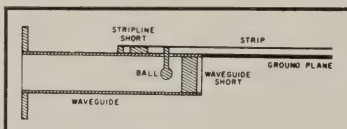

Fig. 4. Ball-probe transition from wave guide to single-ground-plane strip line.
The ball-probe transition from wave guide to coaxial line is the most broadband, so it is natural to consider its use for wave guide to strip line transitions. The ball probe is inherently a low power device, but as strip line is also limited to low power applications, no important characteristics are sacrificed. In such a transition, shown in Fig. 4, the following parameters are important: (1) position of the short in the wave guide, (2) diameter and height of the ball, (3) diameter of the rod, (4) size of the iris in the conductor which forms both the ground plane of the strip line and one wall of the wave guide, (5) position of the short in the strip line. This particular unit was designed for use in the X band with Type C strip line.